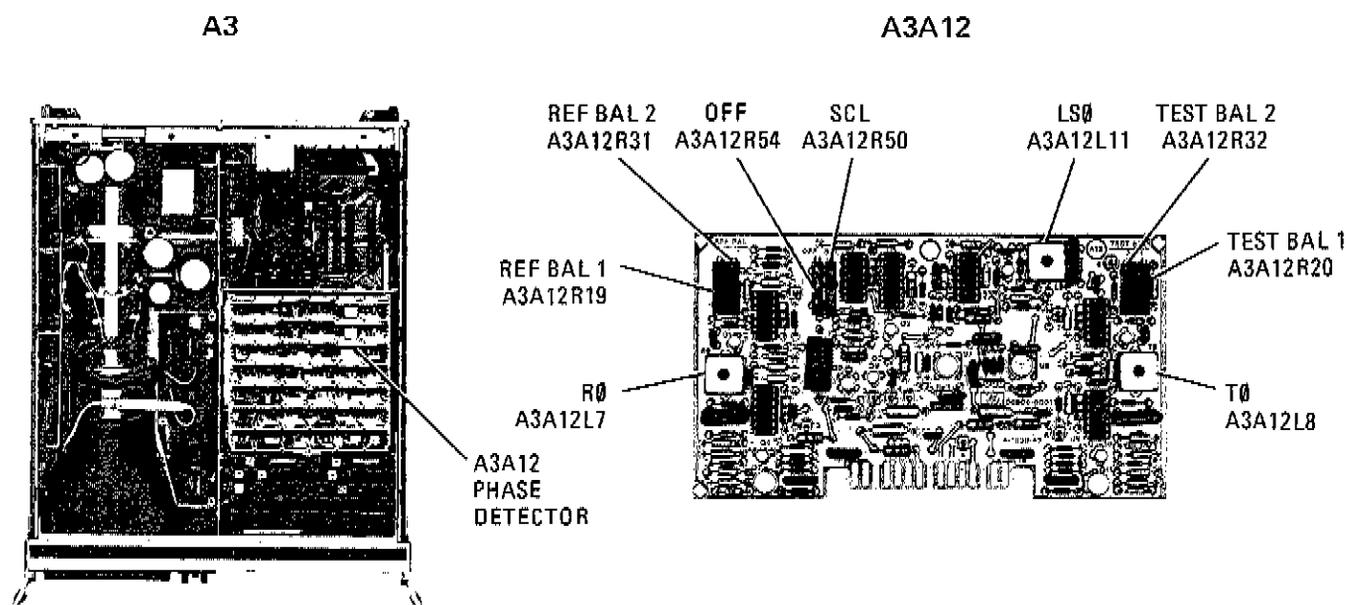

Figure A5-31. A3A12 Phase Detector Adjustments Location
- d. Connect the Spectrum Analyzer to A3A12TP2 using HP 1121A probe. Adjust "REF BAL 1" control A3A12R19 (Figure A5-31) to null the 200 kHz second harmonic signal.
- r. Indication on DVM should be $+900\text{ mV} \pm 1\text{ mV}$. If indication is out of tolerance, adjust "OFF" control A3A12R54 (Figure A5-31) for $+900\text{ mV} \pm 1\text{ mV}$.